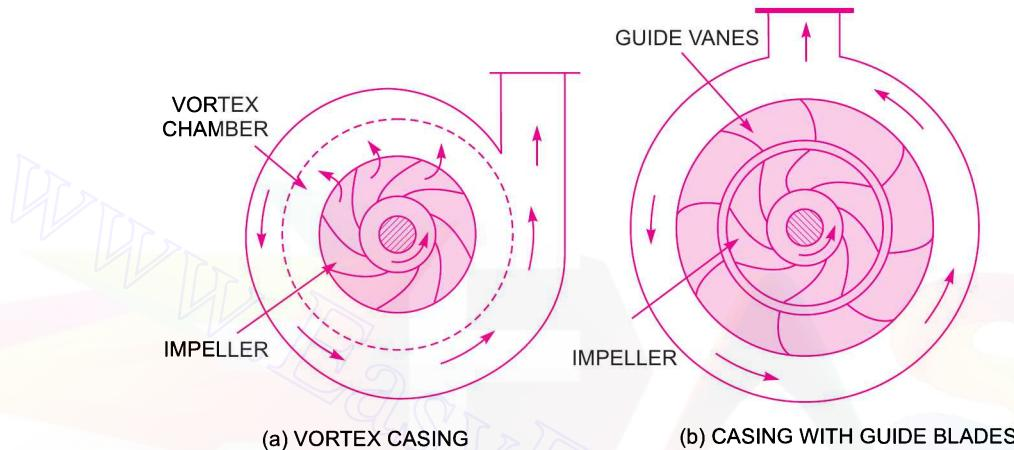

Fig. 19.2 *Different types of casing.*
- (b) Vortex casing as shown in Fig. 19.2 (a).
- (c) Casing with guide blades as shown in Fig. 19.2 (b).
**(b) Vortex Casing.** If a circular chamber is introduced between the casing and the impeller as shown in Fig. 19.2 (a), the casing is known as Vortex Casing. By introducing the circular chamber, the loss of energy due to the formation of eddies is reduced to a considerable extent. Thus the efficiency of the pump is more than the efficiency when only volute casing is provided.
**(c) Casing with Guide Blades.** This casing is shown in Fig. 19.2 (b) in which the impeller is surrounded by a series of guide blades mounted on a ring which is known as diffuser. The guide vanes are designed in such a way that the water from the impeller enters the guide vanes without stock.
Also the area of the guide vanes increases, thus reducing the velocity of flow through guide vanes and consequently increasing the pressure of water. The water from the guide vanes then passes through the surrounding casing which is in most of the cases concentric with the impeller as shown in Fig. 19.2 (b).